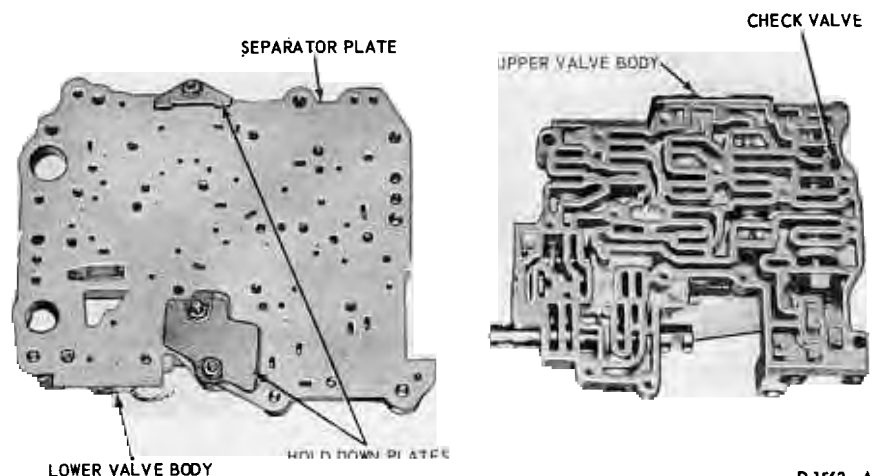

FIG. 64—Separating Upper and Lower Valve Bodies
2. Remove the lower valve body attaching screws and separate the lower valve body, separator plate, gasket and hold-down plates (Fig. 64) from the upper valve body.
15. Position a new rubber check valve in the upper valve body (Fig. 64).